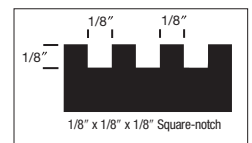

Figure 2
- 1/8" x 1/8" x 1/8" (3 mm x 3 mm x 3 mm) square-notch trowel (Figure 2)